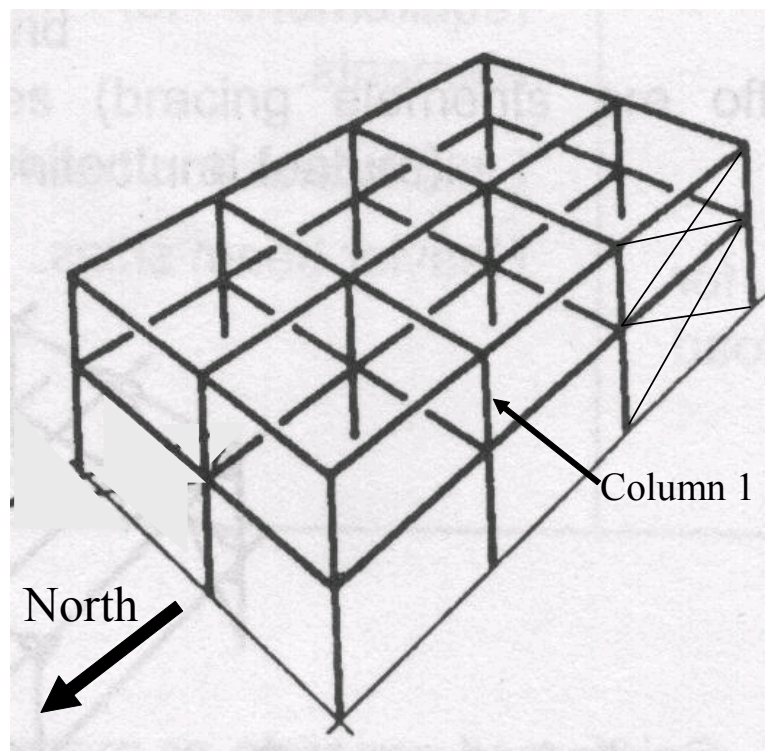

Figure 3
- b) Consider the frame shown in Figure 3. All columns are 200UC52.2 and all beams are 250UB25.7 in Grade 300 steel. The columns are 4 m apart in the north-south and 3 m apart in the east-west directions and each storey is 3.3 m in height. The beam column connections in the north-south direction are flexible, and the connections are rigid in the east-west direction. There is cross bracing in the north-south direction. The column base plate connections should be considered as pinned in both directions. The webs of all columns are oriented east-west and all beams are oriented such that the flanges are horizontal.